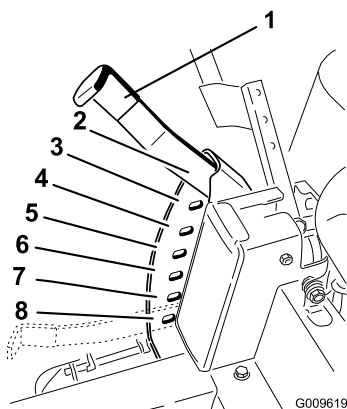

Figure 19
1. Raise the height-of-cut lever to the transport position, cutting height position **G** (also the 4-1/2 inch [115 mm]) (Figure 19).